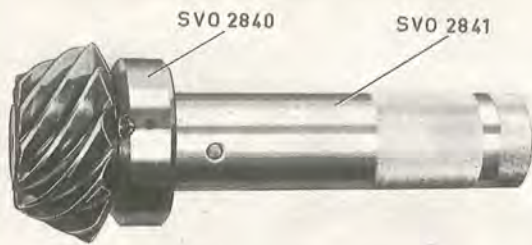
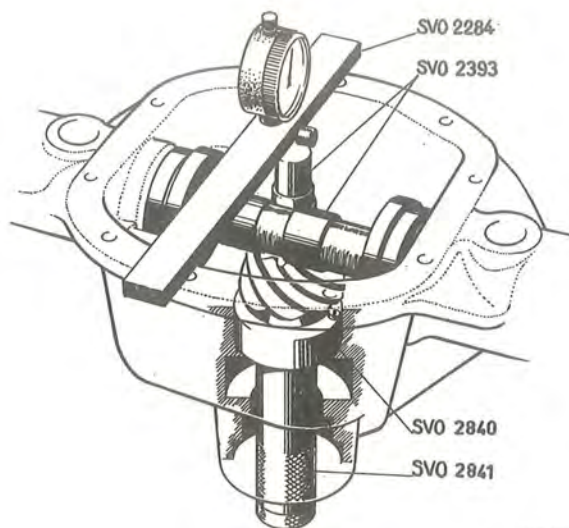
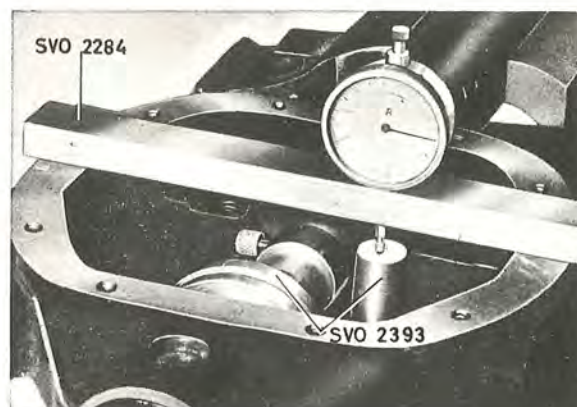
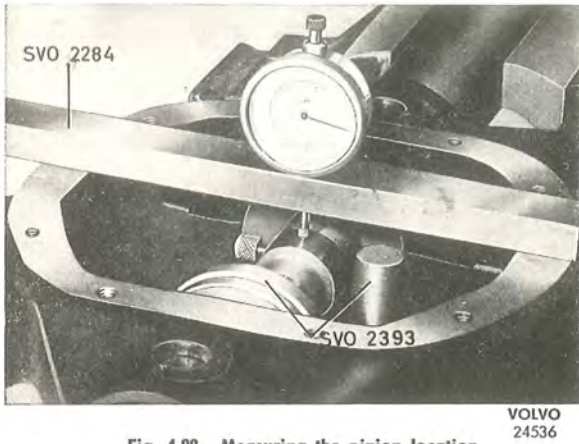

Fig. 4-84. Adjusting ring and tool for pinion location
Fig. 4-86. Locating the measuring tools
Fig. 4-87. Zero-setting the indicator
Fig. 4-88. Measuring the pinion location
1. Clean the marking surface on the pinion with extremely fine emery cloth. Fit the adjusting ring SVO 2847 and tool SVO 2841 on the pinion, see Fig. 4-84. Place the pinion in the carrier, see Fig. 4-86, and secure the adjusting ring by screwing in the lock screw.
Place the pinion gauge on the ground surface of the pinion and the adjusting jig in the differential bearing positions as shown in Fig. 4-86. Place the indicator retainer on the drive pinion carrier and zero-set the gauge against the adjusting jig, see Fig. 4-87. Then move the indicator retainer over so that the indicator comes against the pinion gauge, see Fig. 4-88. If the pinion is marked 0, the adjusting jig and pinion gauge should be at the same height; if the pinion is marked —, the pinion gauge should be higher than the adjusting jig; and if it is marked +, the pinion gauge should be lower than the adjusting jig with correct setting. The setting is adjusted by turning the cam on the pinion until the gauge dial shows the correct value according to the marking. Then lock the